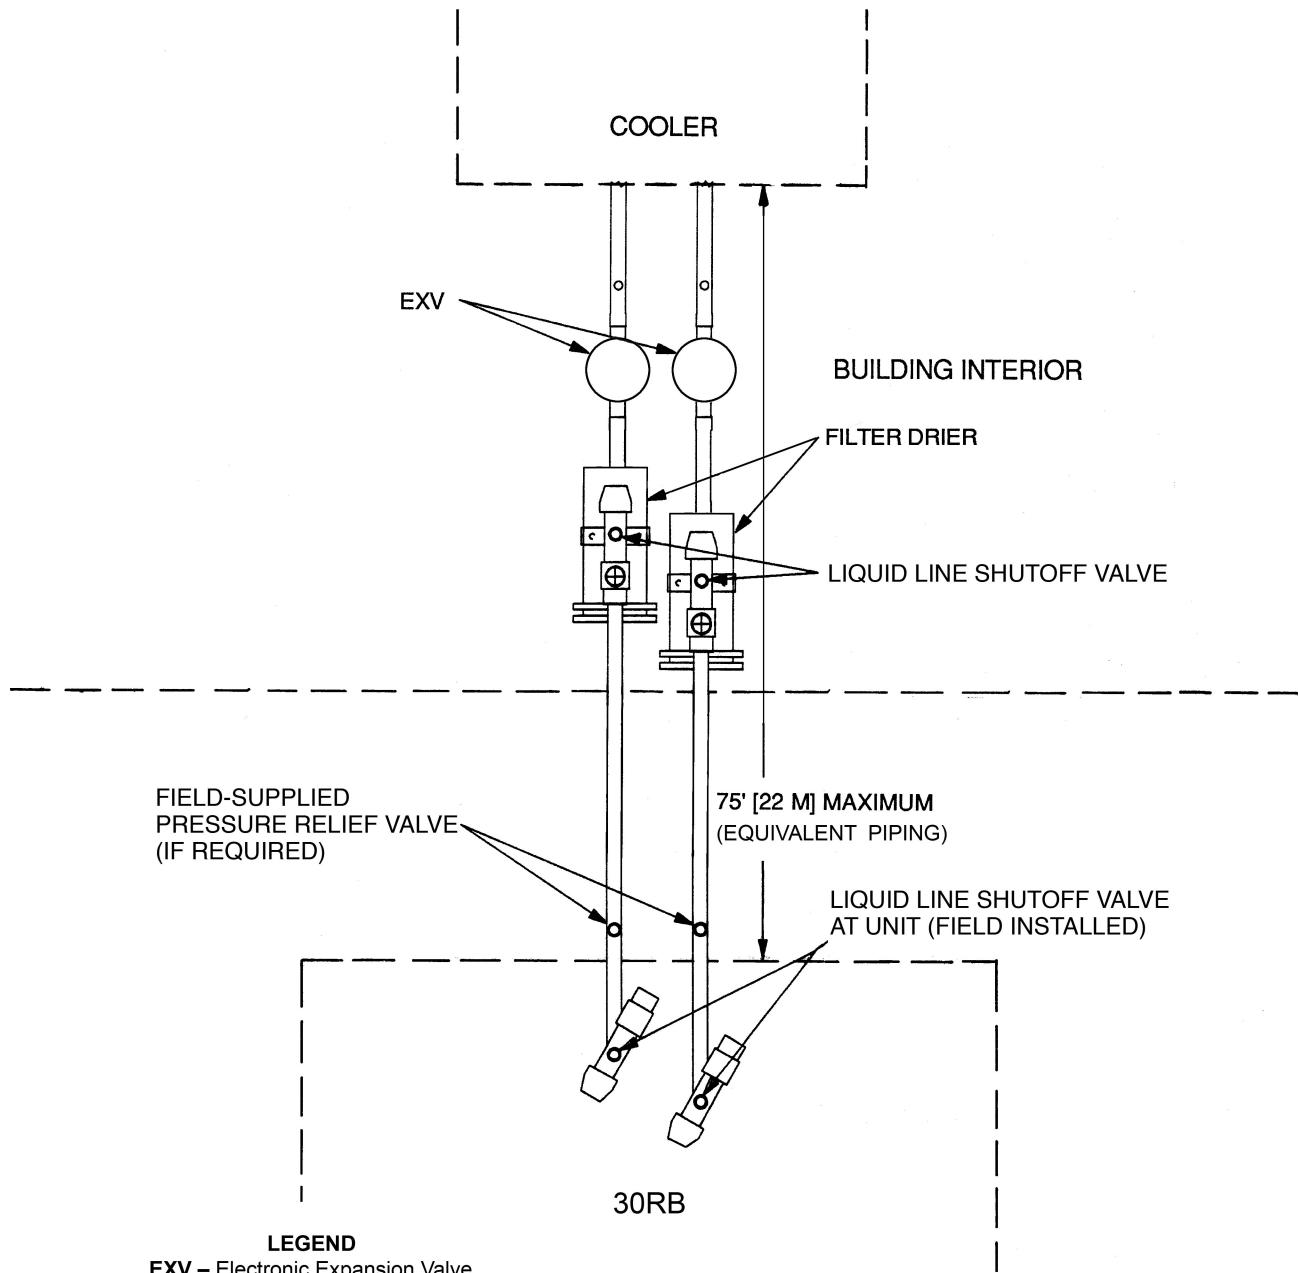
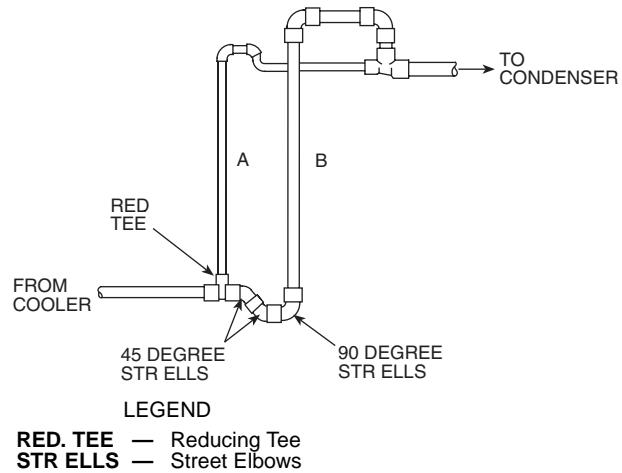

Fig. 5 — Liquid Line Piping (2-Circuit Shown)
Fig. 6 — Double Suction Riser Construction Detail
- Reinstall the filter drier EXV and service valve assembly at the cooler. Keep the location of the EXVs as close to the cooler as possible. See Fig. 5.
- Following Carrier recommended piping practices, install field-supplied liquid and suction lines to reconnect the cooler with the base unit. If the cooler is located below the base unit, then double suction risers must be installed to ensure proper oil return at part load conditions. Refer to Fig. 6 and Table 4 for refrigerant pipe sizing information. As shown in Fig. 5, the new liquid lines between the service valves must each have a field-supplied relief installed as required by local codes.
Do not shut off both service valves in either liquid line. Pressure can build within the trapped area. To avoid the possibility of personal injury or property damage, a field-supplied pressure relief valve must be installed in each liquid line between the two shutoff valves. See Fig. 5.